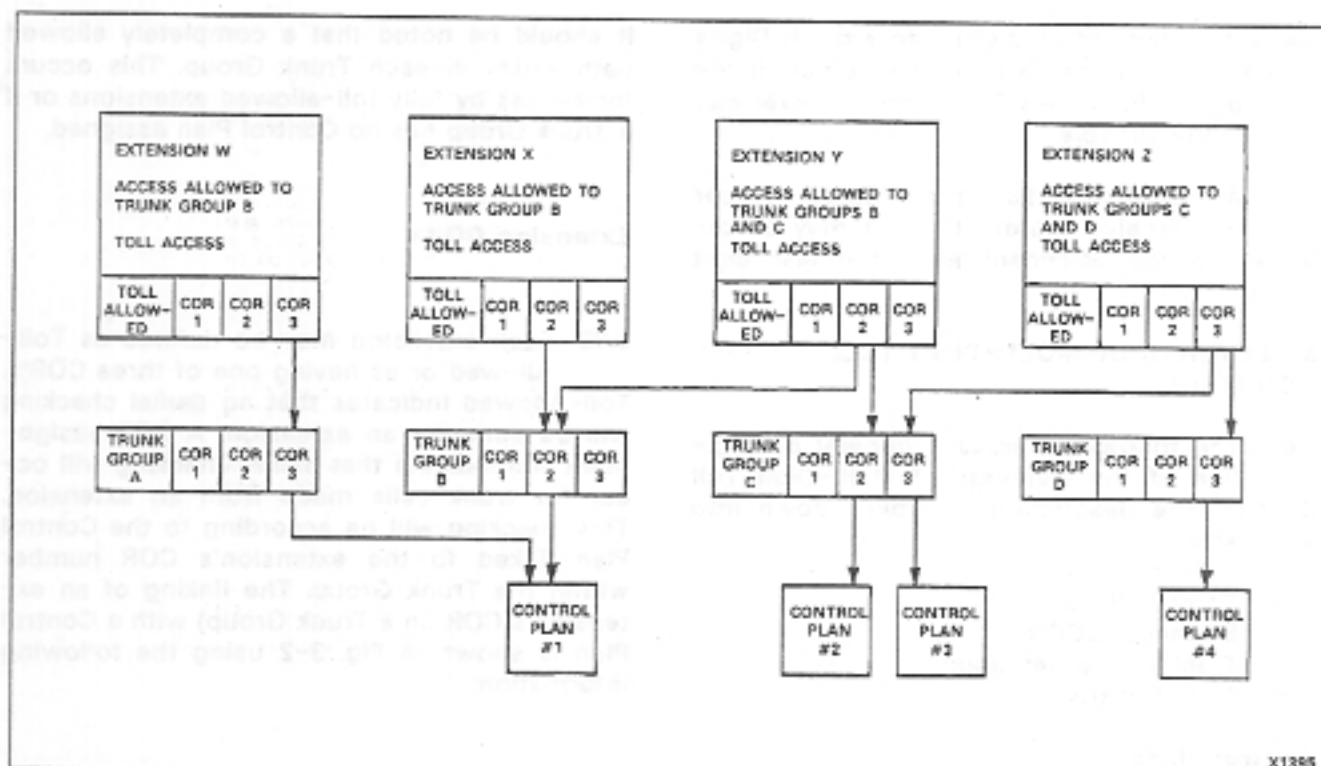

Fig. 3-2 Basic Block Diagram
3.03 Each extension may be defined as Toll-Allowed or as having one of three COR's. Toll-Allowed indicates that no denial checking will be done for an extension. A COR assignment will indicate that denial checking will occur for trunk calls made from an extension. This checking will be according to the Control Plan linked to the extension's COR number within the Trunk Group. The linking of an extension's COR (in a Trunk Group) with a Control Plan is shown in Fig. 3-2 using the following information: